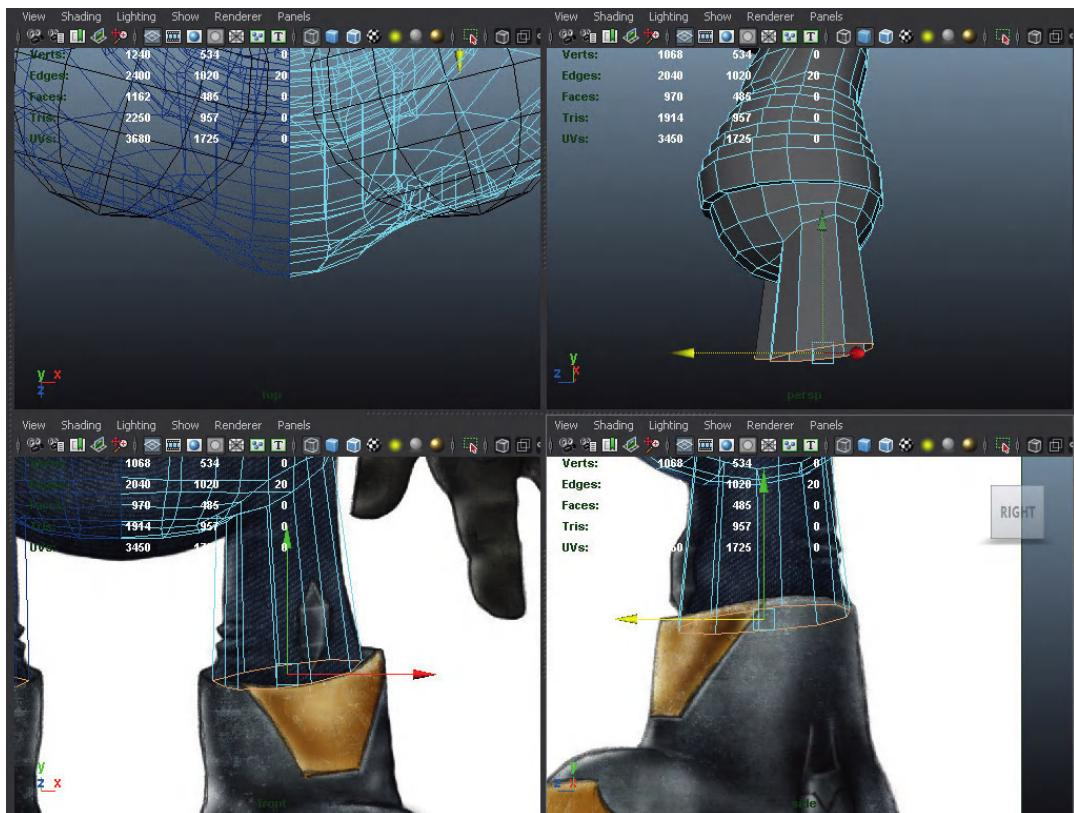

FIG 4.66 Creating the leg with a quick extrude.
Step 84: Create a rough version of the leg. Do this by selecting the ring of edges for the leg and extruding them down to the top of the boot (Fig. 4.66).